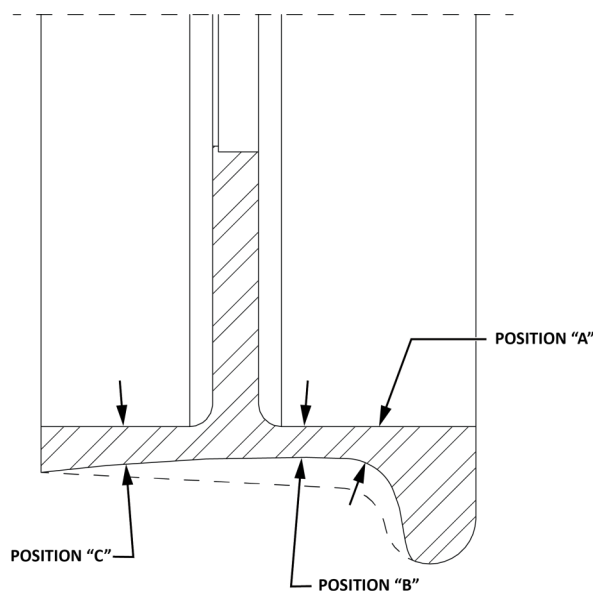

Figure 14
LRG00002 Steel Guide Wheel - See Figure 14
2. With the wheel caliper, measure the guide wheel positions A, B, and C, shown below in figure 14. This dimension needs to be no less than 1/4 inch (6.4 mm).